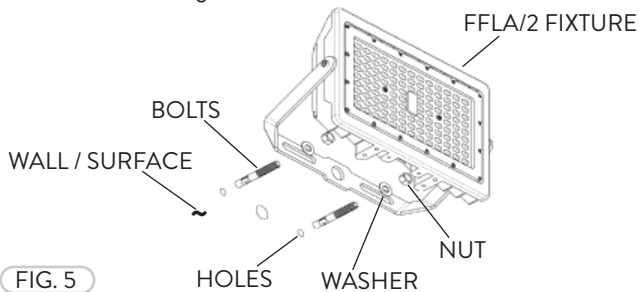

FIG. 5
- 3 The Flood Mount can be mounted to a Wall/Surface. Align the Flood Mount to the holes pre-drilled on the mounting surface and bolt the fixture to the wall (appropriate mounting Bolts, Washers, and Nuts not included) (Fig. 5).